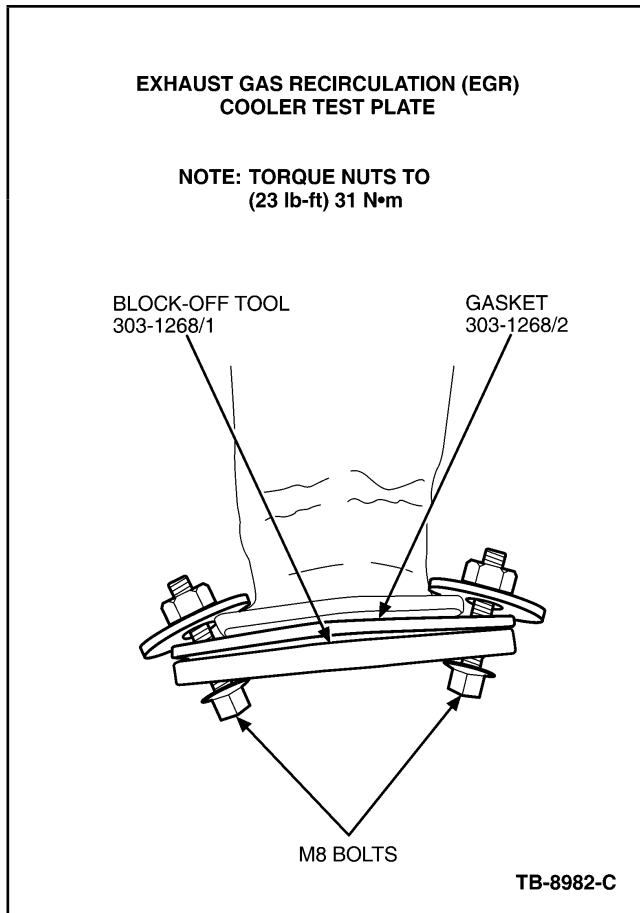

Figure 2 - Article 09-8-3
- (2) If vacuum does not hold steady over 15 minutes go to Step 4.
- b. Install cooler block-off tools and pressurize the EGR cooler to 30 psi (207 kPa). Fasten the inlet and outlet port block-off plates using standard bolts, nuts and washers. (Figure 2)
- (1) Remove the EGR cooler from the engine following Workshop Manual (WSM), Section 303-08.
- (2) Install cooler block-off tools and pressurize the EGR cooler to 30 psi (207 kPa). Fasten the inlet and outlet port block-off plates using standard bolts, nuts and washers. (Figure 2)